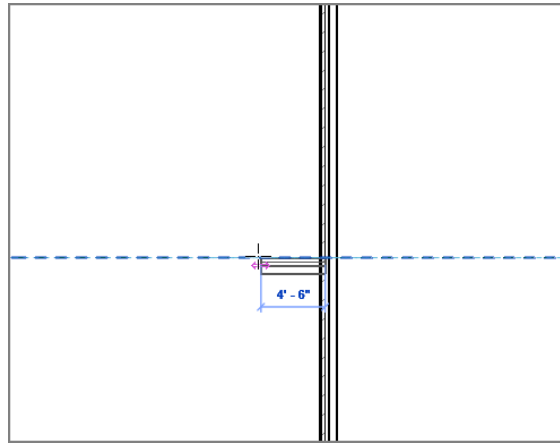

FIGURE 2.6: Drawing a single wall from a defined starting point
5. Start drawing your new wall from the intersection of the west wall (the one on the left) and the upper reference plane, as shown in Figure 2.6. Make sure you're using the face of the wall and not the ledge below. The enlargement in Figure 2.6 can help you.